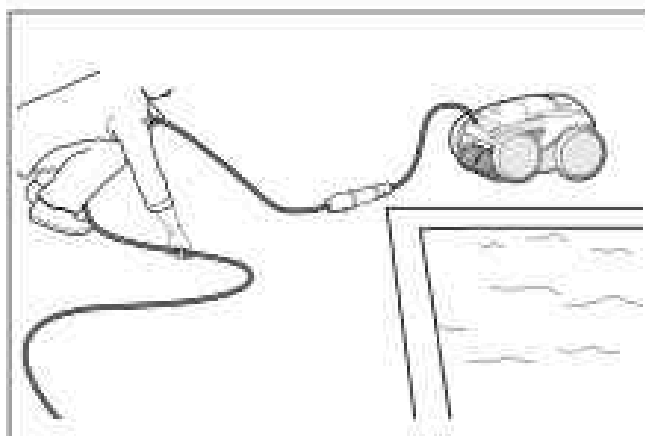

Figure 24. Untangle the Floating cable
2. Starting at the cleaner head, remove all coils and tangles from the cable (Figure 24). Lay the cable in the sun to loosen any tangling memory.